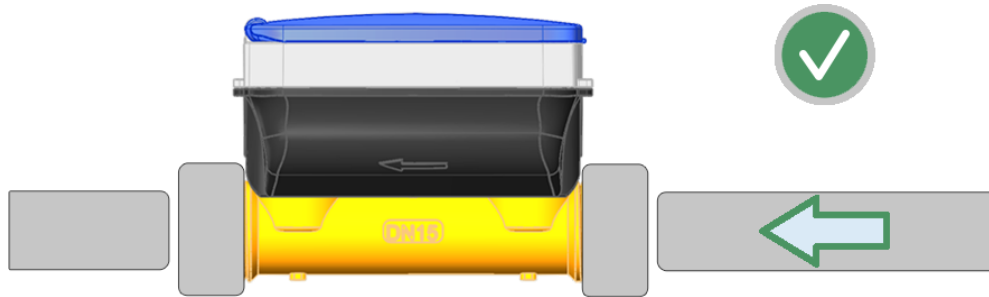

Fig. 3. The flow direction is indicated by an arrow on the side of the water meter housing.
Step 1. Arrange all components in one direction with the arrows in the following order as shown in the Figure 3.